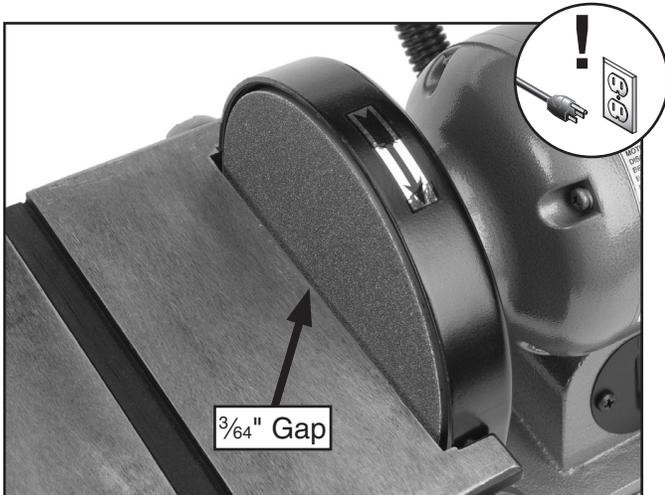

Figure 6. The gap between the table and the disc.
- Adjust the table so that there is $\frac{3}{64}$ " or 1 mm between the table and the sanding disc as shown in **Figure 6**.